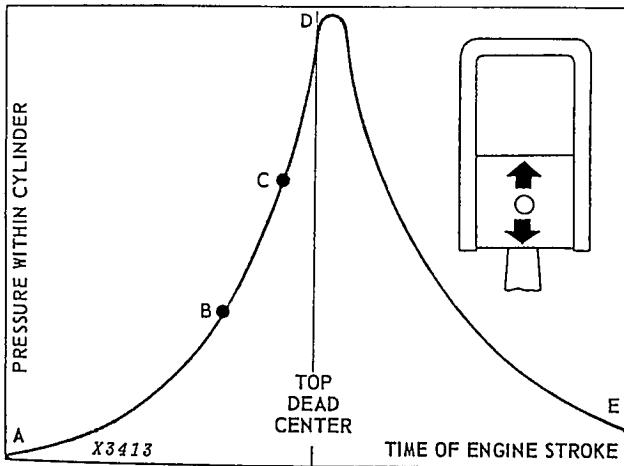

Fig. 43 — Typical Diesel Engine Pressure Indicator Tracing
The elements shown in Fig. 43 are:
These pressures are those developed within the cylinder. Pressures increase from the beginning of the compression stroke become maximum at peak firing pressure, and decrease as the power stroke progresses until the exhaust valve opens (Fig. 43).
**Indicated (IMEP)** mean effective pressure is the average pressure in the cylinder. This is measured by an instrument which records a tracing on a calibrated chart (Fig. 43). From this tracing the actual horsepower developed within the cylinder can be calculated.